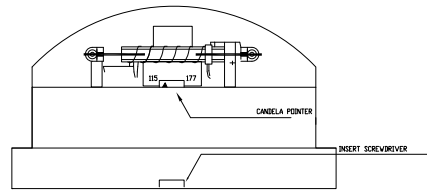

Figure 5:
- 6.To move selector switch, insert screwdriver into slot shown on the bottom side of the strobe. See Figure 5.
- 7.Mount the chime mounting plate to the backbox with the cone protector on. After the chime mounting plate is attached to the backbox, remove the cone protector before installing the grille. Next, attach the grille to the chime mounting plate and attach with (2) screws.